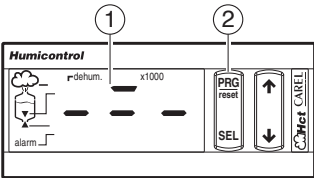

Fig. 11.n
- release the PRG button within 3 seconds to confirm the recall and permanent saving of the default parameters; to confirm the saving of the values, the upper dash will stay on for 2 seconds (as displayed in Fig. 11.n);